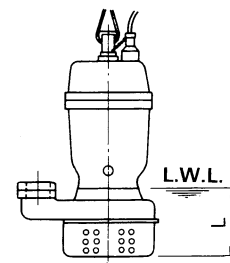

Fig. 2
- (1) Under no circumstances should the cable be pulled while the pump is being transported or installed. Attach a chain or rope to the grip and install the pump.
- (2) This pump must not be installed on its side or operated in a dry condition. Ensure that it is installed upright on a secure base.
- (3) Install the pump at a location in the tank where there is the least turbulence.
- (4) If there is a flow of liquid inside the tank, support the piping where appropriate.
- (5) Install piping so that air will not be entrapped. If piping must be installed in such a way that air pockets are unavoidable, install an air release valve wherever such air pockets are most likely to develop.
- (6) Do not permit end of discharge piping to be submerged, as backflow will result when the pump is shut down.
- (7) Non-automatic pumps (model DS, DN) do not have an automatic operating system based on built-in floats. Always keep an eye on pump operating water level. Do not operate the pump for a long time with the water level near the minimum operating level as the automatic cut-off switch incorporated inside the motor will be activated. To avoid dry operation, install an automatic operating system, as shown in **Fig. 2** and **Table 1** and maintain a safe operating water level.